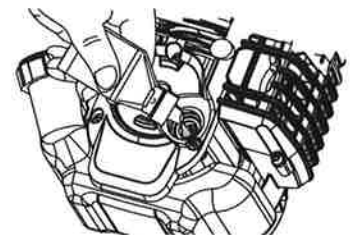

Fig. 21
- If the oil level is not touching the inner most thread on the oil fill hole, add a small amount of oil to the oil fill hole and recheck (Fig. 21). Repeat this procedure until the oil level reaches the inner most thread on the oil fill hole.